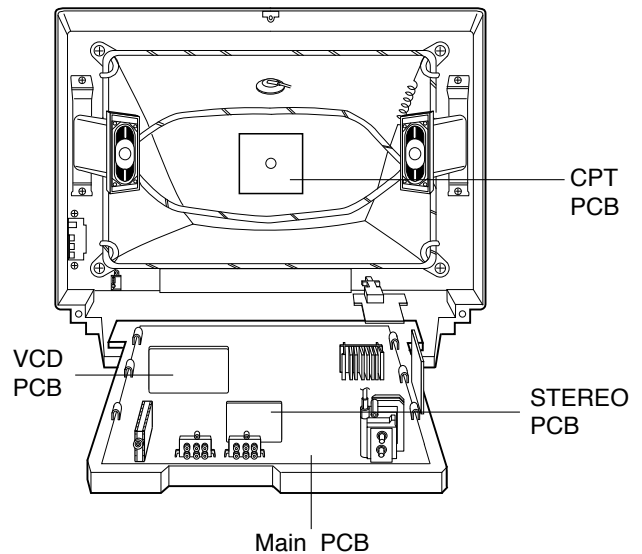

Fig. 2-2
2. Remove respective 6 screws for speaker on the front cabinet. (Fig. 2-2).